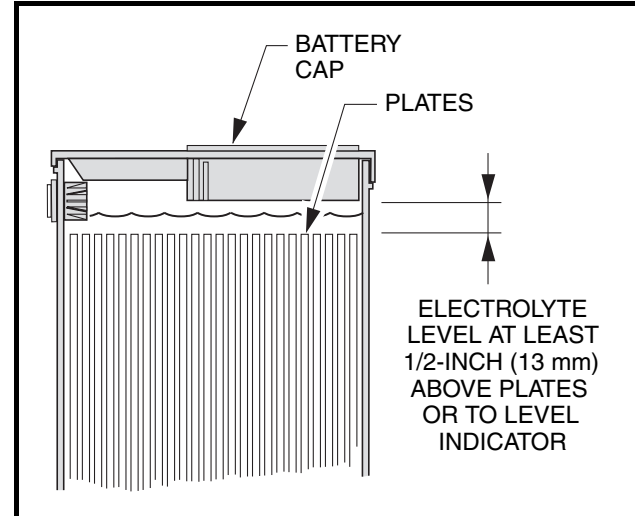

Figure 11-7 Battery Electrolyte Level
1. Be sure that the battery has sufficient water to cover the plates by approximately 1/2-inch (13 mm) and is fully charged prior to beginning the test. If water must be added, recharge the battery before performing the hydrometer test (**Figure 11-7, Page 11-12**).